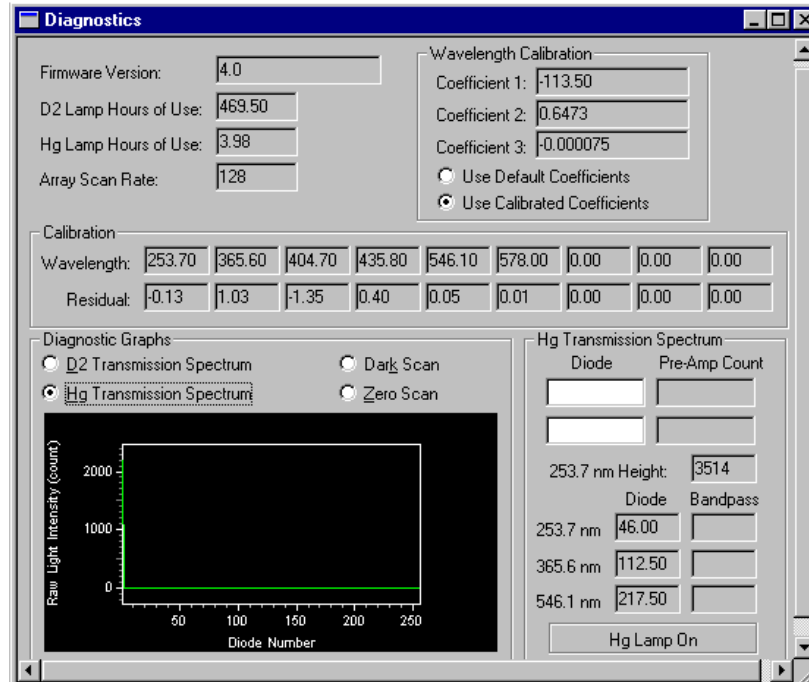

Figure 4.29 PDA Diagnostics Screen
20. From the Instrument screen **Control menu**, select **Diagnostics**. The PDA (PDA detector installed) or UV (UV detector installed) diagnostic dialog box appears as shown in Figure 4.29.